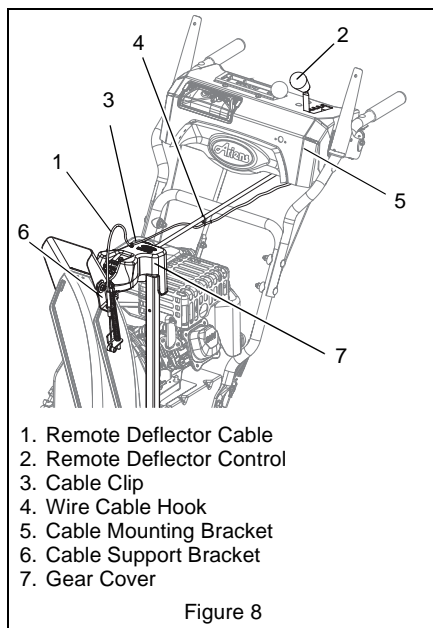

Figure 8
8. Install cable into clip on top of discharge chute pedestal (Figure 8).
9. Make sure deflector cable loops above gear cover between cable clip and cable support bracket (Figure 8).